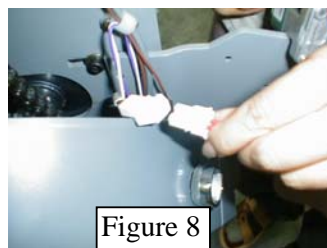

Figure 8
- e. Install the right rewind on the outside of the frame and connect the motor wire connection to rear wire (Figures 8 & 9).